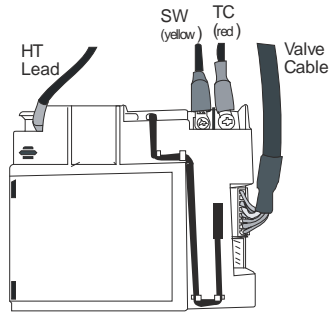

Figure 41
2. Carefully pull out the valve cable (see **Figure 41**).
3. Disconnect the SW cable (with yellow sleeve) from the receiver (See **Figure 41**).
2. Gently pull out the HT lead and the valve cable from the receiver (see **Figure 41**).